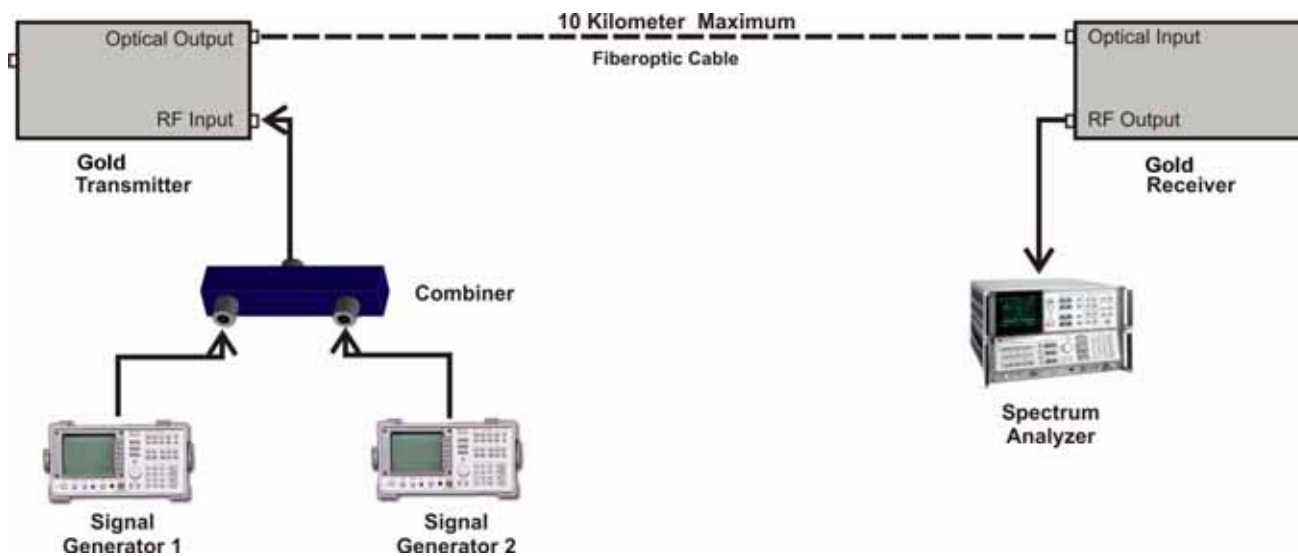

Figure 12 7000 Fiber Optic Alignment Setup
2. Set up the system as shown in **Figure 12 7000 Fiber Optic Alignment Setup**.